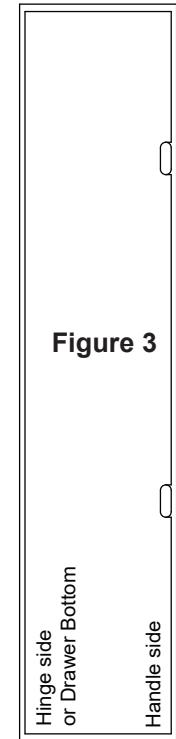
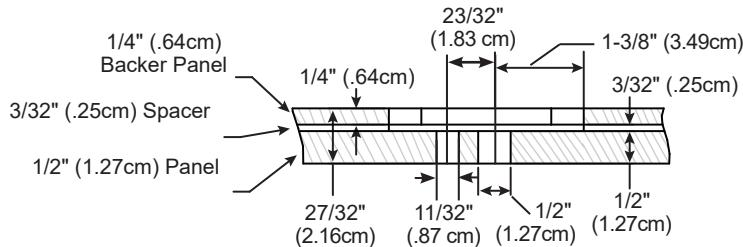

Figure 3
Figure 2 L Distance from the center of the 1/2" (1.27cm) hole to the edge of the routing
for Figure 3**
8. Using a router, straight line guide, and a 1" (2.54 cm) router bit, route on 1/4" (.64cm) backer panel and 3/32" (.25cm) spacer to create two clearance holes for handle mounting holes defined in steps 1-7.6. See **Figure 2** and **Figure 3**.
9. Using wood glue, adhere the 1/4" (.64cm) backer panel and 3/32" (.25cm) spacer to the back of the outer custom panel. Holes should clear the handle mounting holes. Cross section should look like **Figure 2**.